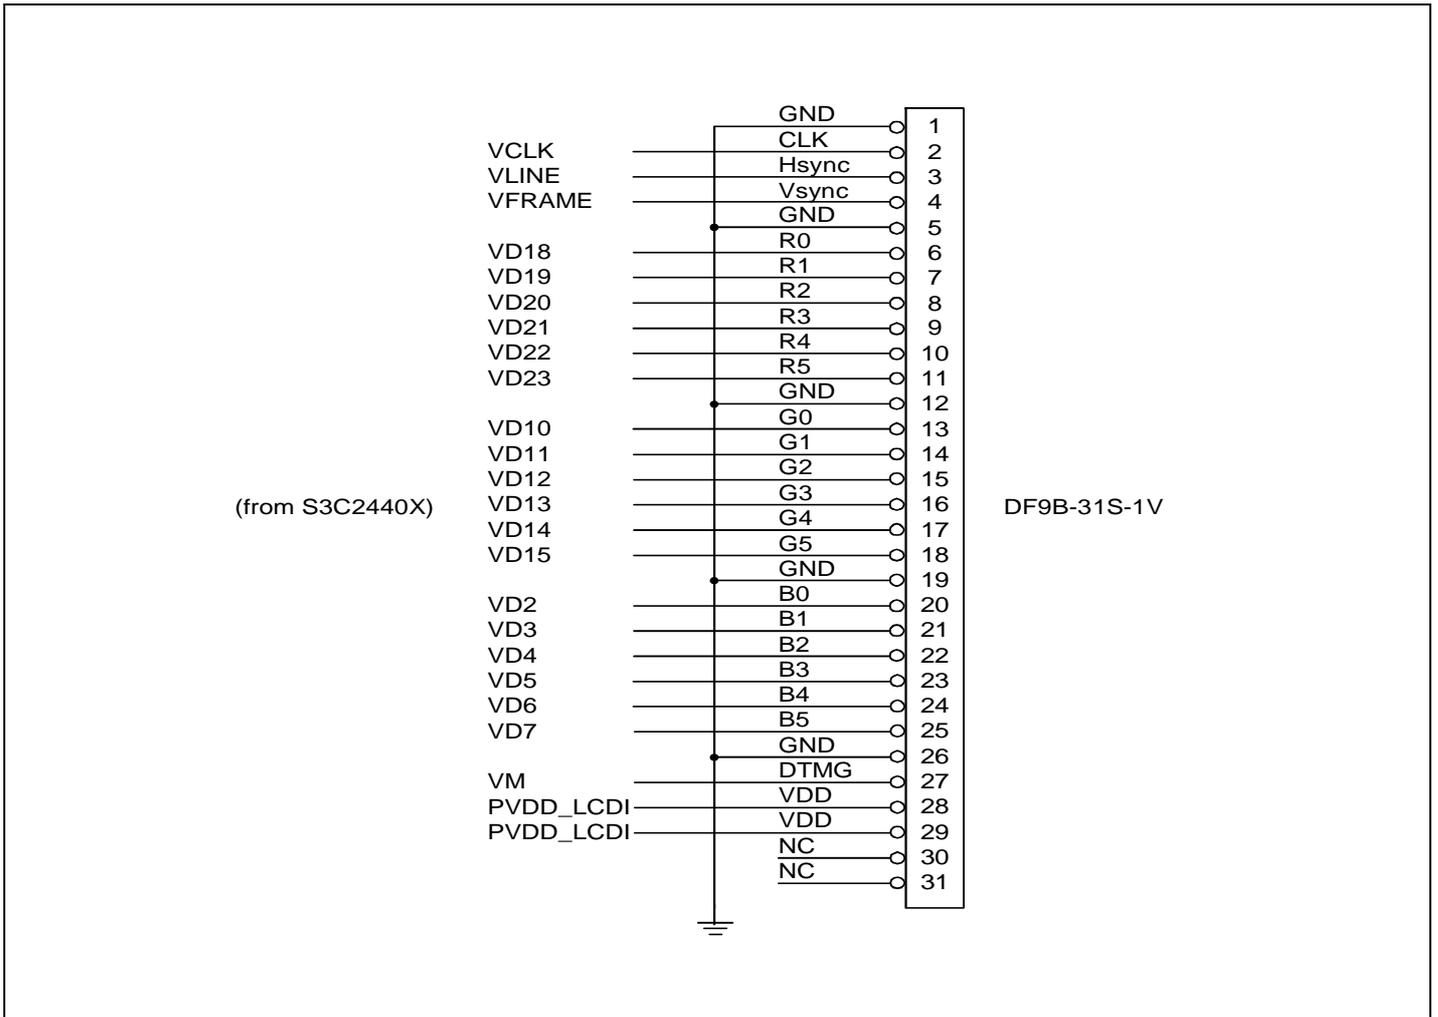

Figure 4-18. LP104V2-W Connection with S3C2440X (LG Philips 10.4" TFT LCD)
- LP104V2-W (262,144 color TFT LCD, 10.4") from LG Philips (refer to Figure 4-18)